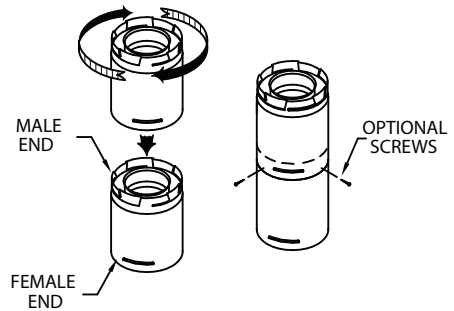

Figure 5
(1) Twist-lock procedure: Line up locking lugs on male and female ends of pipe sections. Insert the male end of pipe sections into the female end until the locking lugs are covered. Twist the female end clockwise an eighth of a turn to lock sections together (**Fig. 5**). Screws are not required to secure the joint, but are acceptable provided they do not penetrate the inner wall of the vent pipe.
(2) Horizontal runs of vent pipe must be supported to prevent any downward sags. Horizontal pipe sections should be supported at least every 4-feet. Wall Straps can be used for this purpose. Alternatively, plumbers tape or other suitable noncombustible material can be used to support the vent pipe.
(3) DirectVent Pro venting requires no sealant, unless specifically required by appliance manufacturer.